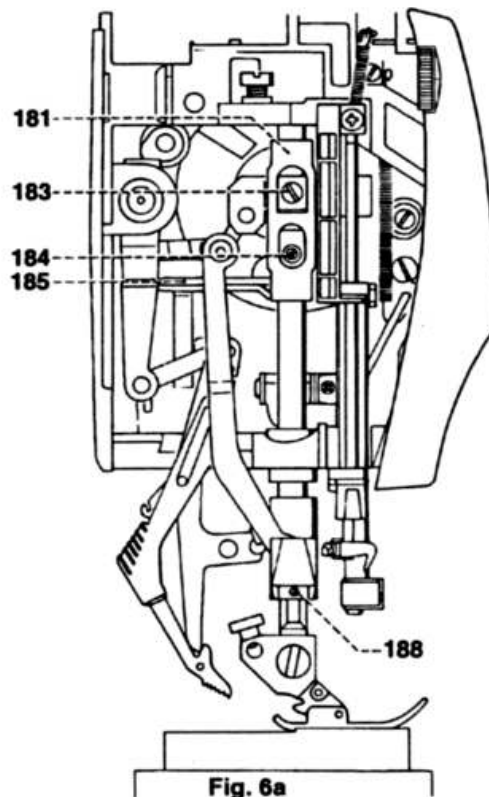

Fig. 6a
- Lower the presser bar lifter to its normal position again. The zigzag foot must rest parallel and without play on the sewing foot gauge. However, the sewing foot gauge must not lift the zigzag foot, and the needle thread tension release must be without play (fig. 6a).